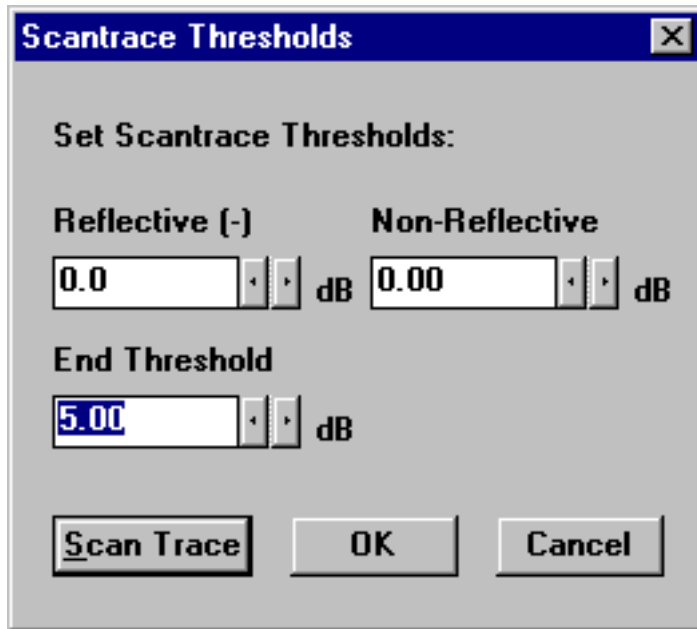

Figure 2-10 Scantrace Thresholds window
- 1 Select the menu option [ANALYSIS]<SCANTRACE THRESHOLDS>. You see a window allowing you to set Thresholds for Reflective, Non-Reflective, and End Events (Figure 2-10).